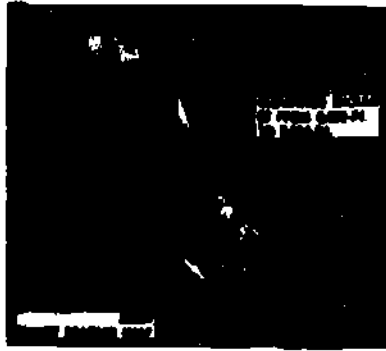

Fig 5-25. Checking main thrust bearing for end play.
Now let's clean the main bearings thoroughly and inspect each bearing half. Scored or chipped bearings must be replaced as well as excessively worn bearings. At this point, you may begin to eliminate crankshaft end play if it was found to be excessive during disassembly. This is done by replacing the main thrust bearings, which have flanged ends (fig 5-25). The bearing (A) should be placed in its position in the engine block or bearing cap, and the space between the flange and the block or cap measured with a feeler gage (B).